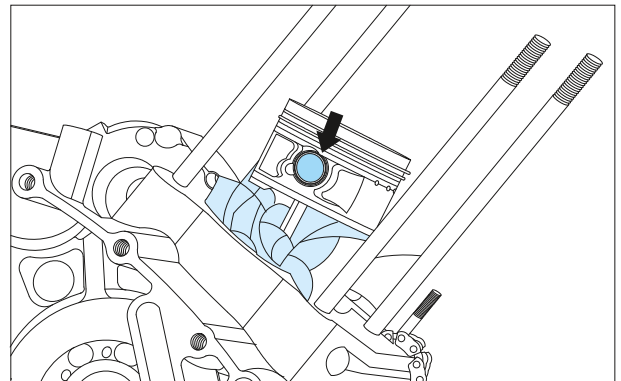

Fig. 3.68
- Place a clean cloth in the crankcase assembly bore to prevent circlip piston pin from falling inside the crankcase while removing the circlip. (Fig. 3.68)
- Remove the circlip piston pin from any one side of the piston. (Fig. 3.68)